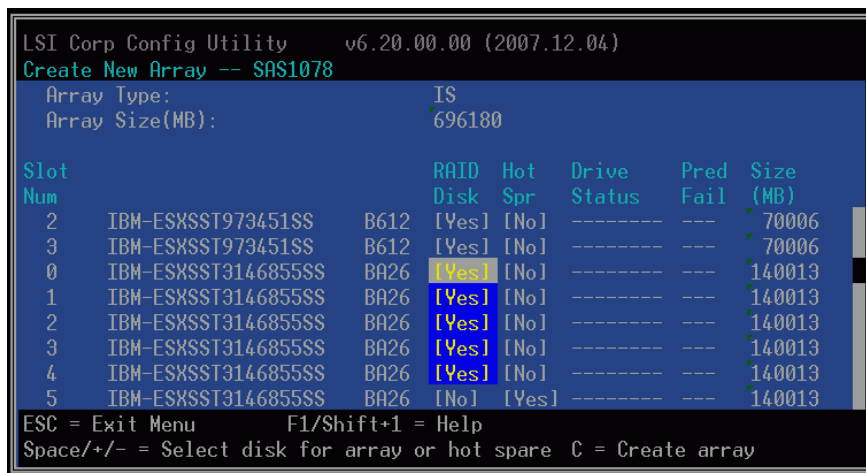

Figure 3-47 LSI1078: array creation
In the RAID creation menu, Figure 3-47, select the hard disk drives you want to add, for example, to a RAID-0 (IS). You can add up to 10 hard disk drives to one volume. Press **C** to create this array.
Figure 3-47 shows a previously created volume in RAID-1 (IM) and one assigned hard disk drive as a hot-spare disk. see in Figure 3-48 on page 158.